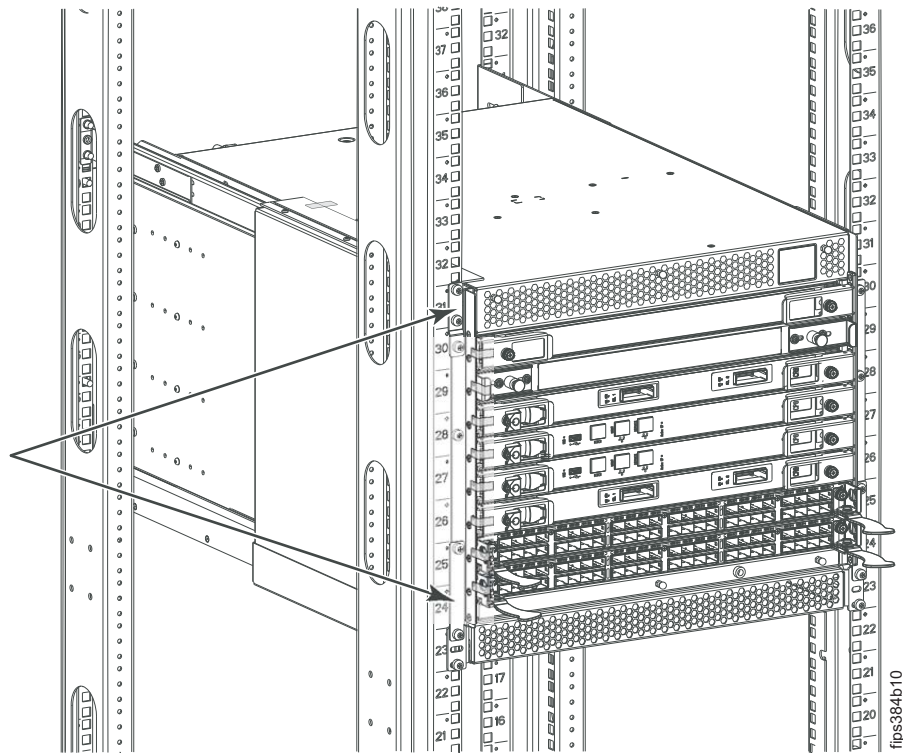
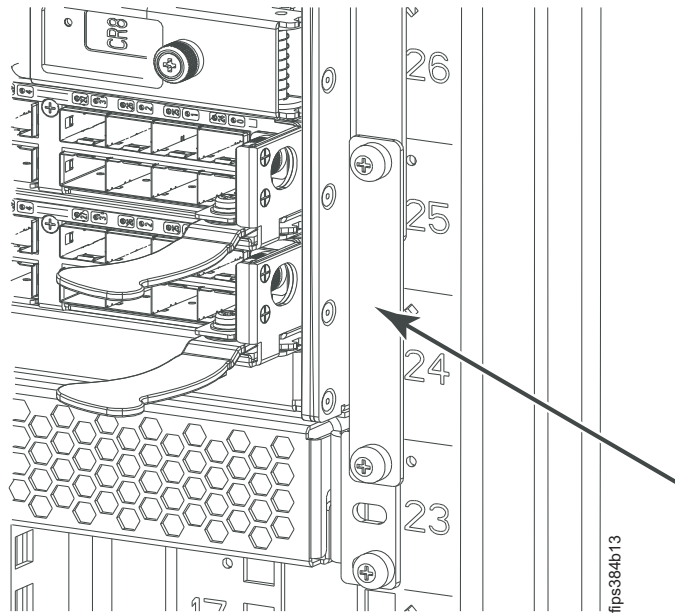

Figure 16. Upper and lower 2499-192 rackmount FIPS brackets installed on the left cabinet rail (left port view)
Figure 19. Lower right 2499-192 FIPS bracket installation (detailed port side view)
3. Use the three rackmount screws that you just removed to install the upper left FIPS bracket between the chassis rackmount flange and top rail flange, as shown by the upper arrow in Figure 16 on page 18, then tighten securely. The
5. Using the two rackmount screws that you removed in step 4, install the lower left FIPS bracket between the chassis rackmount flange and exhaust kit shelf flange, as identified by the lower arrow in Figure 16, then tighten securely. The straight bracket is the lower FIPS bracket. (You can also refer to Figure 19 on page 20 for a more detailed mirror image of the similar lower right FIPS bracket.)
9. Use the two rackmount screws that you just removed to install the lower right FIPS bracket between the chassis rackmount flange and exhaust kit shelf flange, as shown in Figure 19 on page 20, then tighten securely. The straight